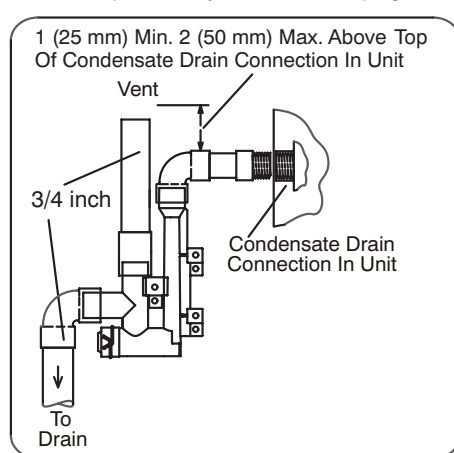

FIGURE 40
- 3 - Install the cap over the clean out opening at the base of the trap. Secure with clamp. See figure 40.
- 4 - Install drain trap using appropriate PVC fittings, glue all joints. Glue the provided drain trap as shown in figure 40. Route the condensate line to an open drain.